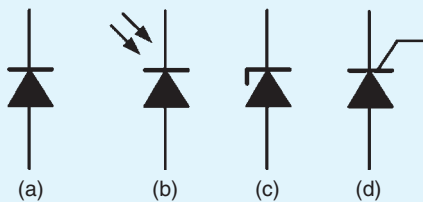

Figure 11.20
- Identify the types of diodes shown in Fig. 11.20.